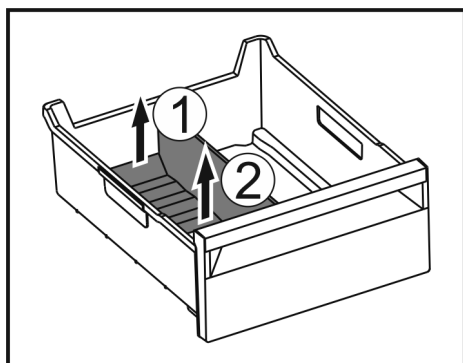

Fig. 190
- Lift the rear part of the ice compartment divider. Fig. 190 (1)
- Remove the ice compartment divider upwards. Fig. 190 (2)